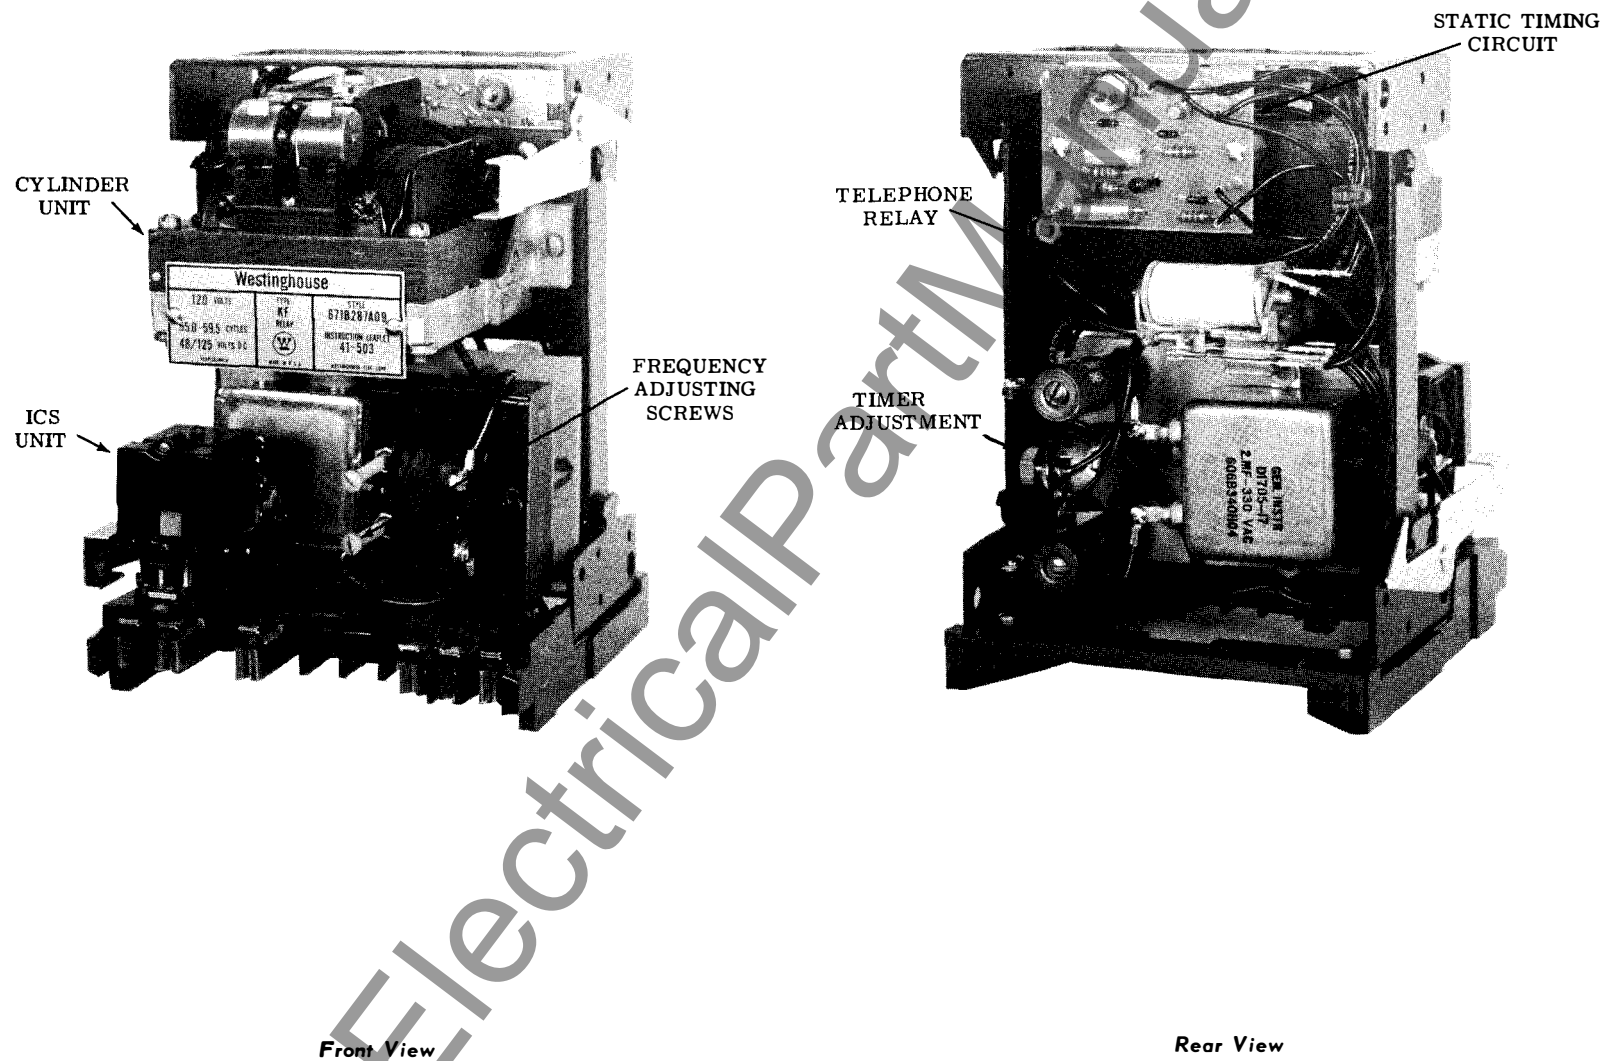

Fig. 1. Type KF Relay for 60 Cycles Without Case. (Front & Rear View)
The relay consists of an induction cylinder unit, frequency sensitive components, indicating contactor switch, and auxiliary time delay unit (T). The principal parts of the relay can be seen in Figure 1.